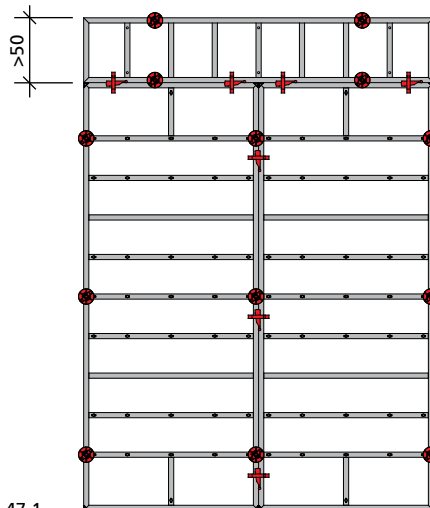

Fig. 47.1
■ Tie rods must be used for all tie holes for a height extension with a panel that is wider than 50 cm (Fig. 47.1).